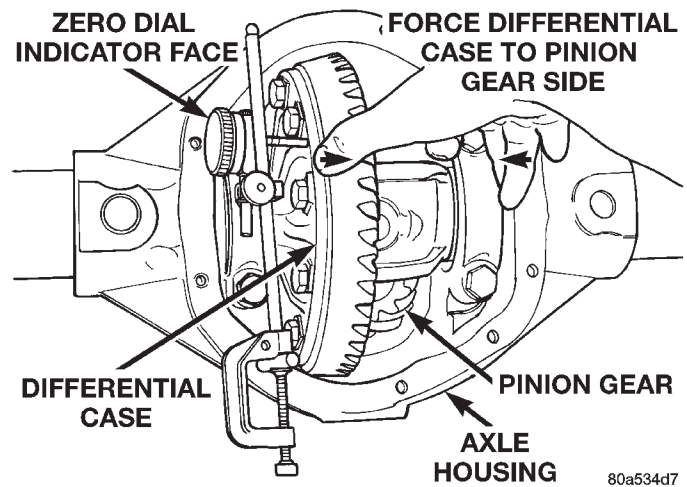

Fig. 71 Hold Differential Case and Zero Dial Indicator
(22) Push and hold differential case toward pinion gear (Fig. 71)
(23) Zero dial indicator face to pointer (Fig. 71.)